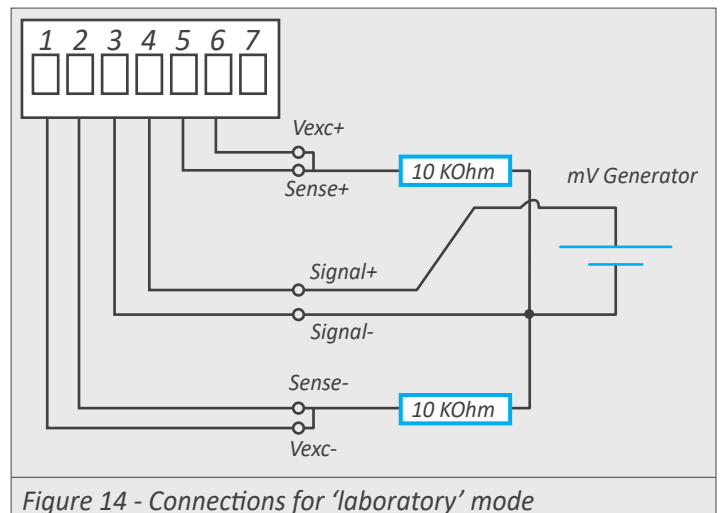

Figure 14 - Connections for 'laboratory' mode
- Connect the instrument to the millivolt meter (see Figure 14). Add 2 resistances of 10 KOhm to connect the 'Vexc' terminals to the common of the signal generator.